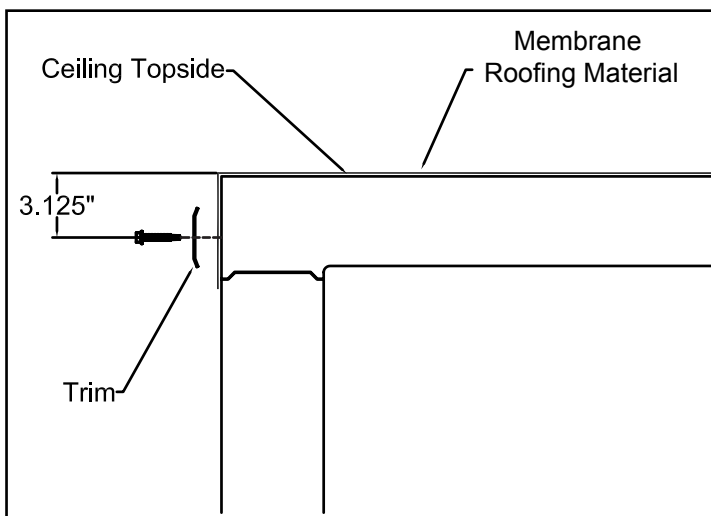

Figure 5
6. Attach the trim and door hood by using the provided hex head sheet metal screws. All pieces should be held down 3-1/8" from the ceiling top as shown in Figure 5. Ensure the trim and membrane roof material cover the joint between the ceiling and wall panels. Note: The trim may have to be cut to fit.